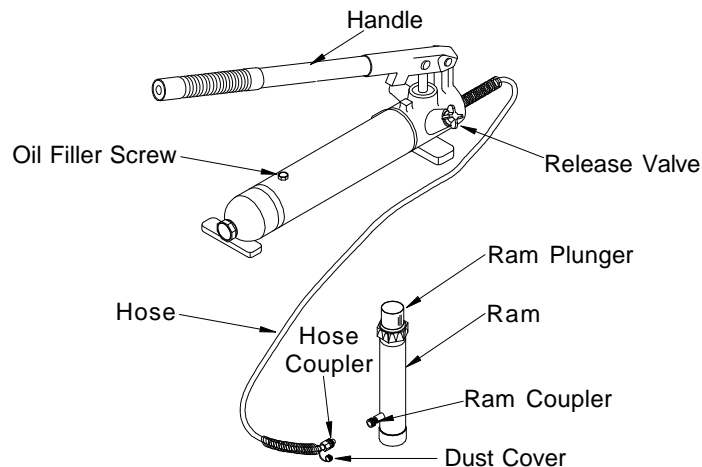

Figure 1 - B65114 and B65115 Components
BEFORE USE (Refer to Figure 1 on page 3)
1. With ram fully lowered, set pump unit in its normal, level position. Locate and remove oil filler screw (see Figure 1).